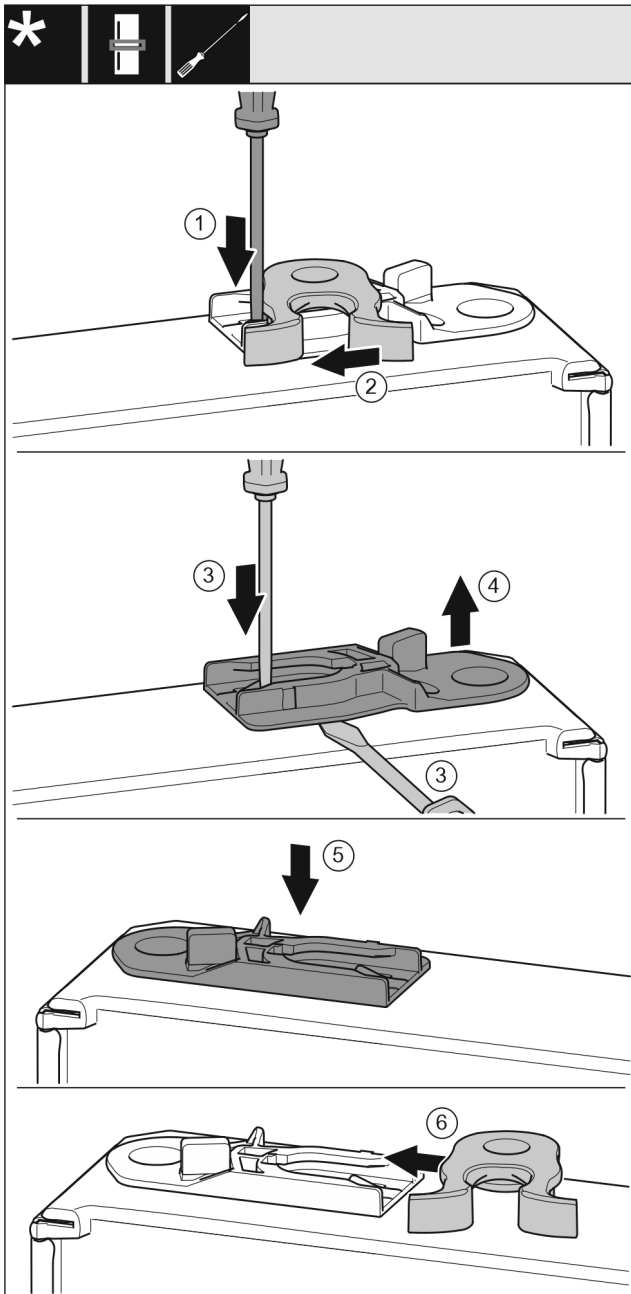

Fig. 52 *
- ▶ Use a slotted screwdriver to push the tab Fig. 52 (1) downwards.*
- ▶ Pull the closing hook Fig. 52 (2) out of the guide.*
- ▶ Pull out the guide bush Fig. 52 (3, 4): Press the tab with a flat-blade screwdriver and at the same time move the flat-blade screwdriver under the guide bush.*
- ▶ Insert the guide bush Fig. 52 (5) supplied on the other side of the housing.*
- ▶ Slide the closing hook Fig. 52 (6) into the guide.*